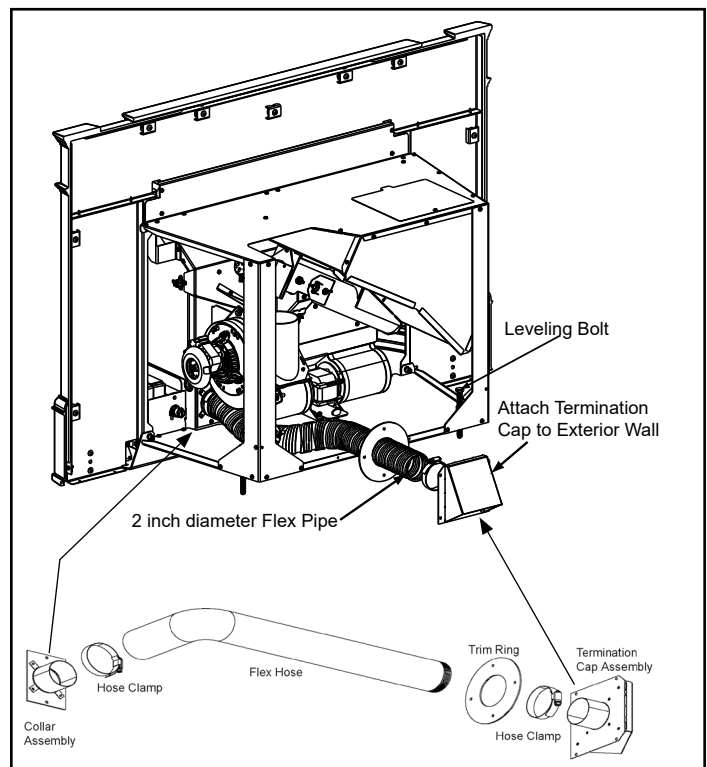

Figure 21.3
3. Use hose clamp to secure flex pipe to collar assembly (**Figure 21.3**).